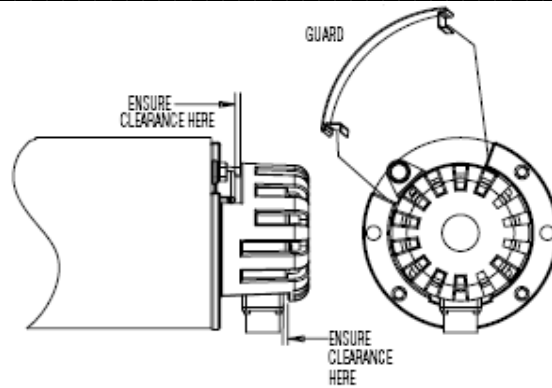

Figure 2
- 4) Tighten two (2) encoder clamp collar screws.
- 6) Install basket guard (if applicable) over the encoder, large opening over the connector or cable and shorter opening over the tether. Ensure the cover is fully seated over the motor face (see Figure 2 following page). When mounting to a fan cover, drill three mounting holes .17" in diameter with appropriate spacing to match basket. Use three #10-24 self-tapping screws to mount (included with 114592-0001 Fan Mount Cover Kit).